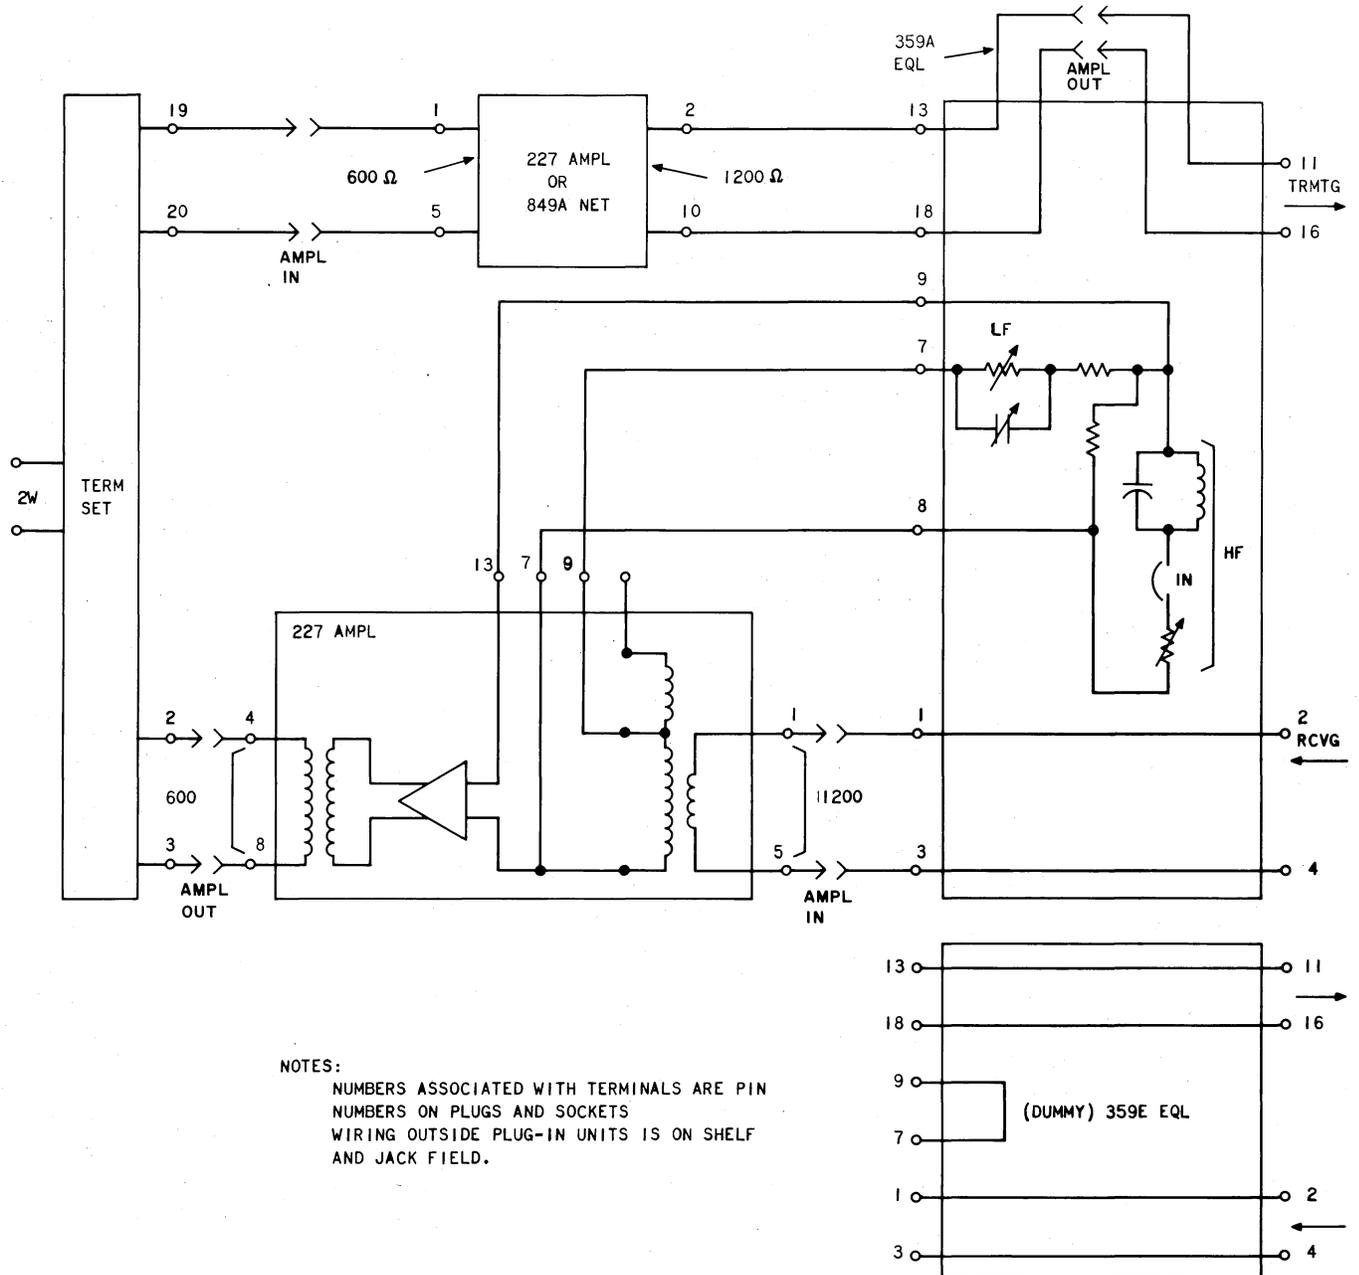

Fig. 8—Equalizer Details Showing Connections Between Units on a 24V4 Repeater With Amplifier in Receiving Direction
**19.05** Figures 8 and 9 show, in some detail, the wiring of 24V4 repeater shelves and components. It can be seen from these figures how the 359A and 359D equalizers are connected to, and function with, the amplifier and 849B network, respectively. Study of these figures shows that if the equalizers are interchanged, the elements are either connected improperly or are not connected at all.
**19.06** Figures 8 and 9 also show how the 359E and 359J dummy equalizers are connected to, and function with, the amplifier and 849B network, respectively. These equalizers insert no loss. Study of the figures shows that if the 359J equalizer is used with an amplifier, it short-circuits part of the input transformer. It also shows that if the 359E equalizer is used with an 849B network, improper connections are established.